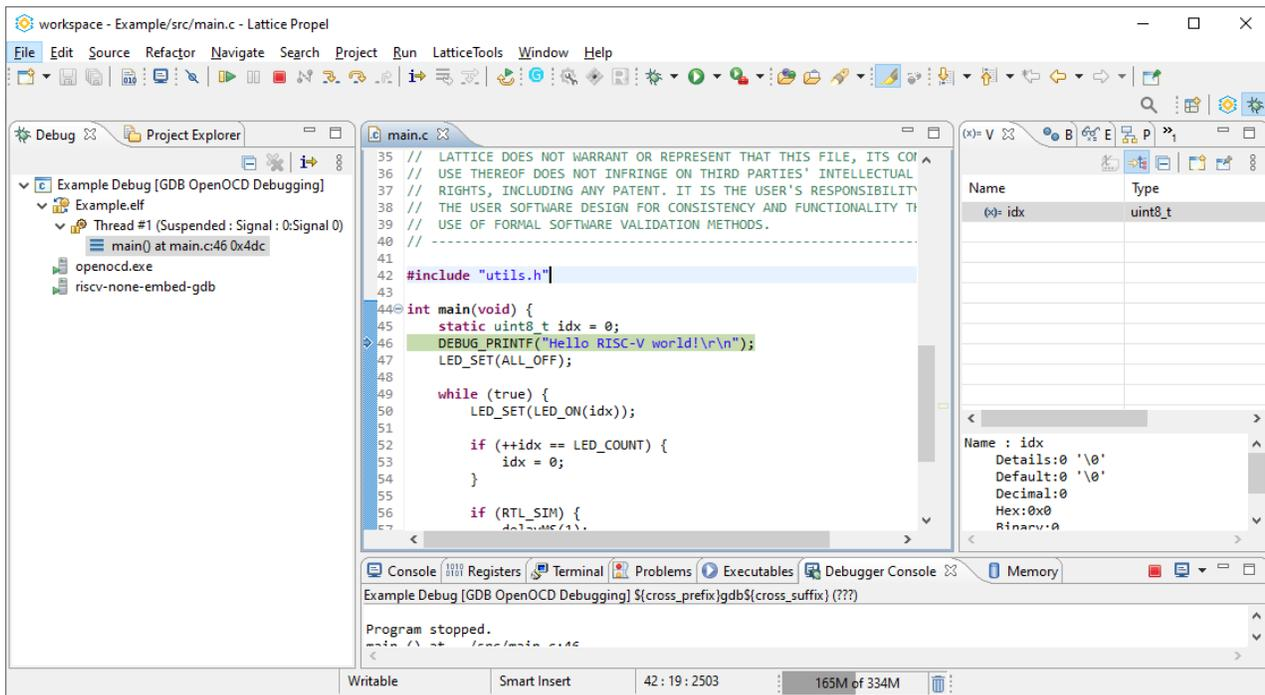

Figure 3.37. Debug Perspective
6. The Lattice Propel Window displays, as shown in Figure 3.37. The execution stops right at the beginning of the main() function.